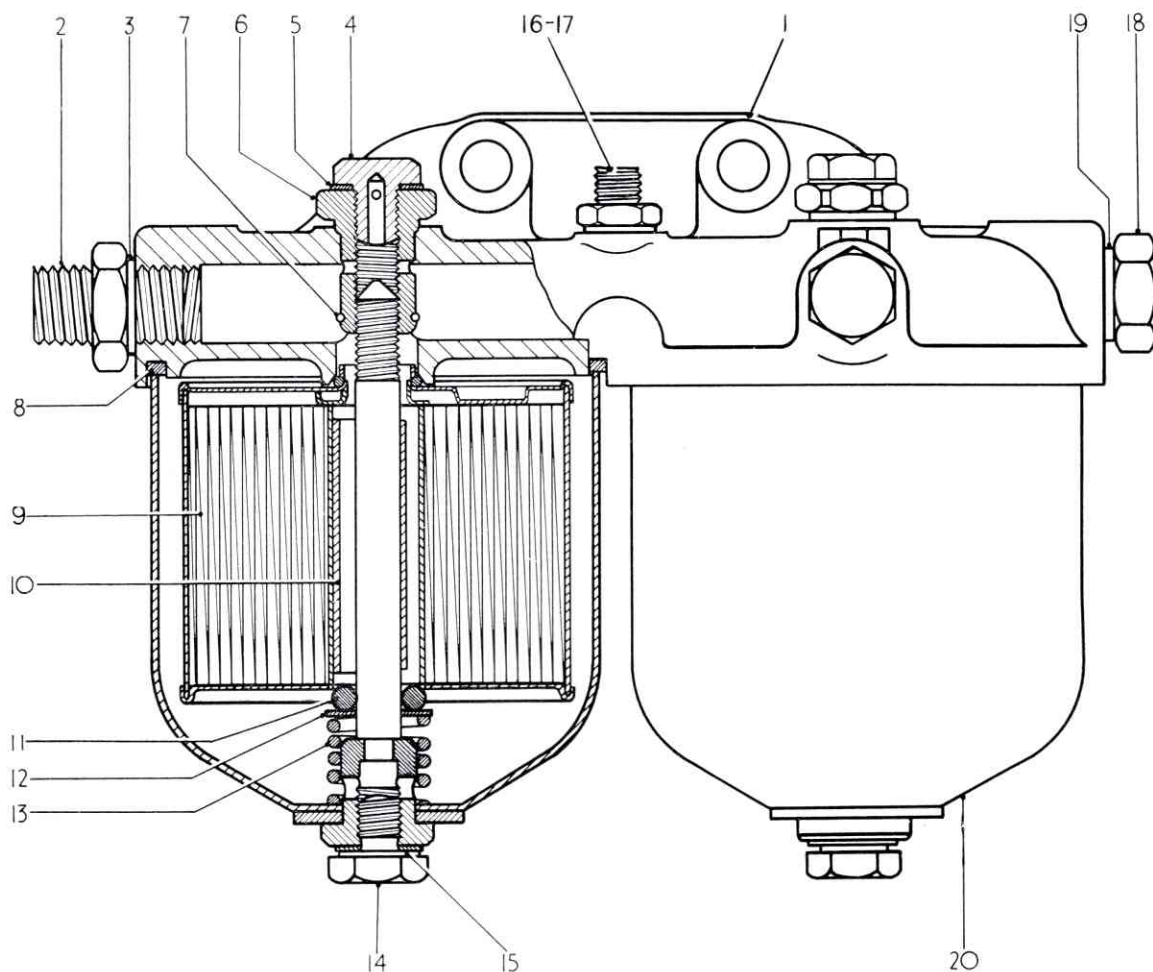

FIG. 98. SECTION THROUGH THE FUEL OIL FILTER
The filter, Fig. 98, is of the cross-flow type, the inlet and outlet connections (16) and (2) being carried on the cover (1) which also incorporates a bracket for support. The filter bowls (20) are of pressed steel and form oil-tight containers for the paper elements (9), air vent plugs (4) are fitted to the cover (1). Drain plugs (14) are provided at the bottom of the filter bowls.
The fuel oil enters the filters through the inlet connection (16), Fig. 98, and passes down outside the element canisters, then up through the element filters (9) and finally emerges via the central outlet at the top of the elements and so out through the outlet connection (2).